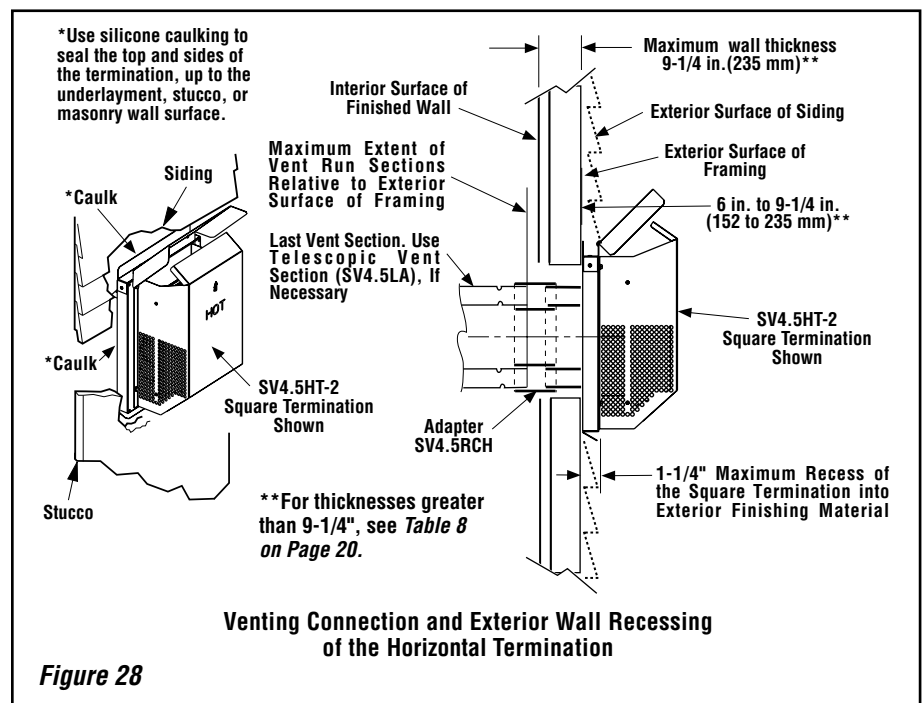

Figure 28
J. Assemble vent run to exterior wall - If not previously measured, locate the center of the vent at the exterior wall. Prepare an opening as described in **Step B**. Assemble the vent system to point where the terminus of the last section is located relative to the exterior surface to which the termination is to be attached as shown in **Figure 28 and Table 8**.
If the terminus of the last section is not within this distance, use the **telescopic vent section SV4.5LA**, as the last vent section. For wall thicknesses greater than that shown in **Figure 28**, refer to **Table 8 on Page 20**. This Table lists the additional venting components needed (in addition to the termination and adapter) for a particular range of wall thicknesses.
For the last step, from outside the exterior wall, slide the collars of the termination onto the adapter (the outer inside the outer and the inner outside the inner) until the termination seats against the exterior wall surface to which it will be attached. Orient the housing of the termination with the arrow pointed upwards. Secure the termination to the exterior wall. **The horizontal termination must not be recessed into the exterior wall or siding by more than the 1-1/4" (32 mm) as shown in Figure 28.**
Table 8 *Note: See Figure 28 on Page 19 showing wall thickness range when using SV4.5HT-2 termination kit.*